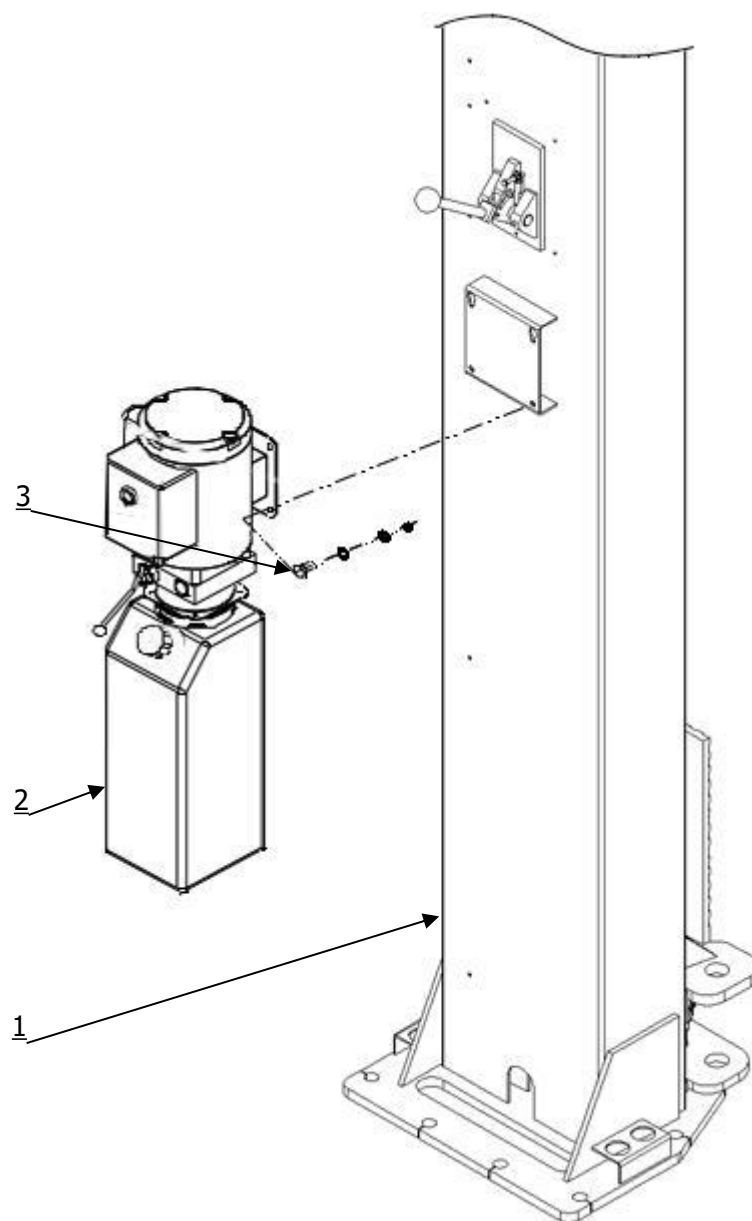

Fig.32
L. Install power unit (See Fig. 32)